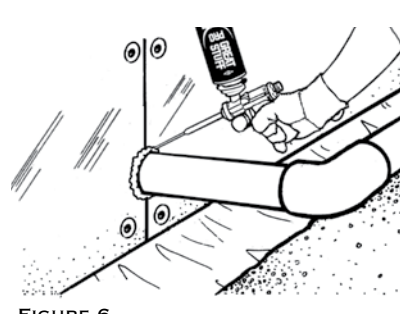

FIGURE 6
4. Seal all penetrations through the crawl space wall with spray urethane foam such as GREAT STUFF PRO Gaps & Cracks. (See Figure 6.) Joints between boards of insulation may also be taped with WEATHERMATE™ Construction Tape, if desired.